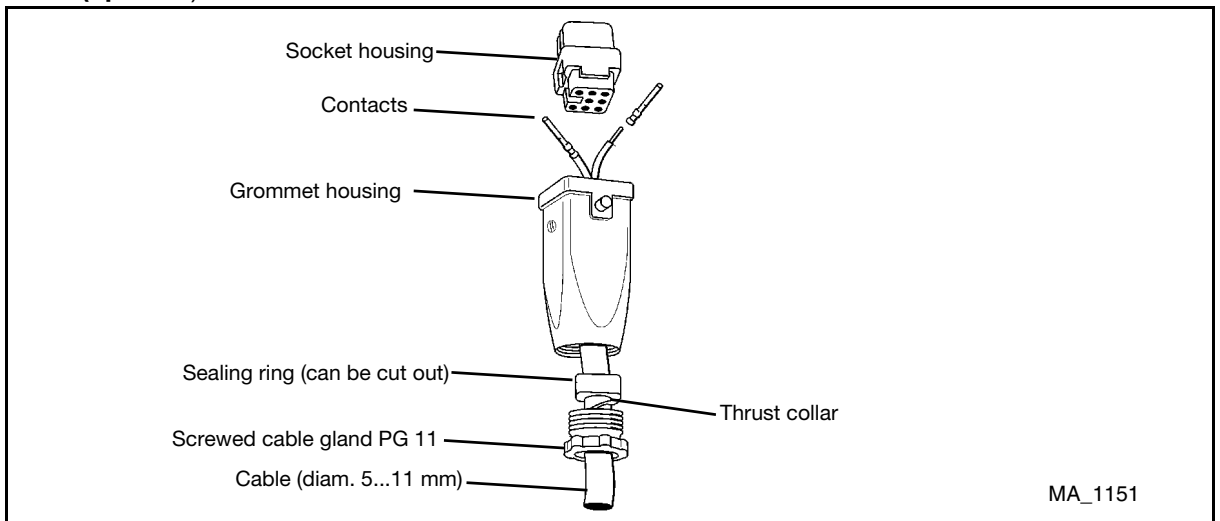

Fig. 8: Assembling the coupler socket Han 8U
The coupler socket for connecting the cable is included as an accessory to the transmitter unassembled. Please note the wiring diagram included with the plug! (Assembly see Fig. 8) The female contacts (2) are crimped or soldered on the 1.5...2 cm unsheathed and approx. 8 mm stripped cable ends (conductor cross section $0.75...1 \text{ mm}^2$) and inserted into the female socket (1). Slide the pressure screw (5), pressure ring (7), gasket (4) and socket shell (3) onto the cable in the order indicated before assembly (you may have to adapt the gasket (4) to the cable diameter).